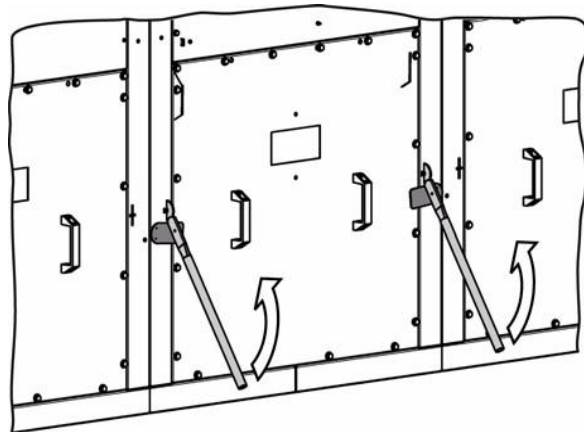

Fig92. Operating handles for withdrawable voltage transformers (movement for disconnecting)
- ⇒ While lifting the operating levers, the rear cover interlock (in fig92) is released.